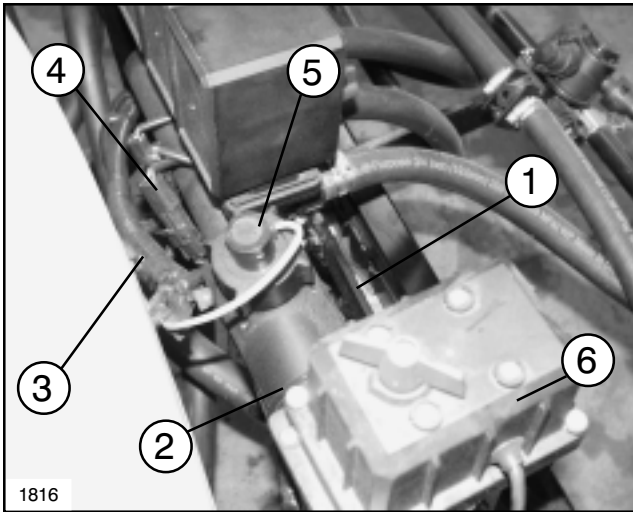

FIG. 9
22. Route wiring harness across rear of vehicle and secure to Valve Mounting Bar with Tie Straps. (See FIG. 9)